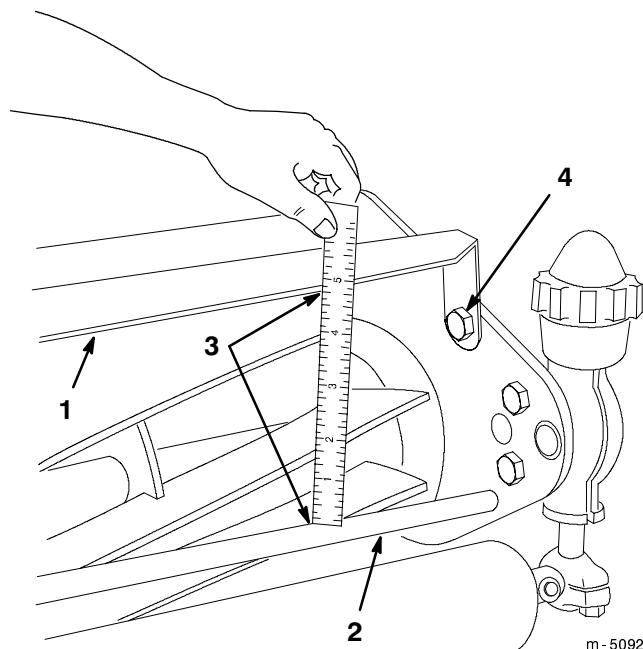

Figure 5
1. Set the cutting unit in the normal cutting position and measure the distance from the top of the front crossbar to the shield at each end of the cutting unit (Fig 5).
2. For normal cutting conditions, the height of the shield from the crossbar should be 4-3/4 in. (12.1 cm). Loosen the screws and nuts securing the shield to each side plate, adjust the shield to the correct height, and tighten the fasteners (Fig. 5).